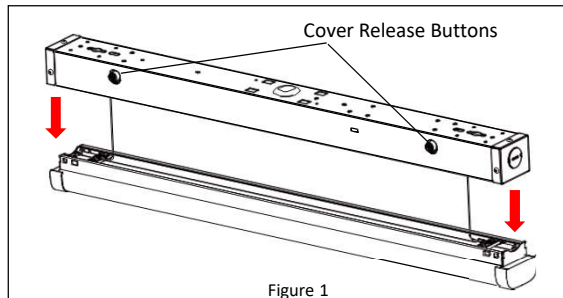

Figure 1
2. Open the fixture by squeezing the 4 buttons on the side of the fixture and allowing the LED cover to disengage from the housing. *See Figure 1.*